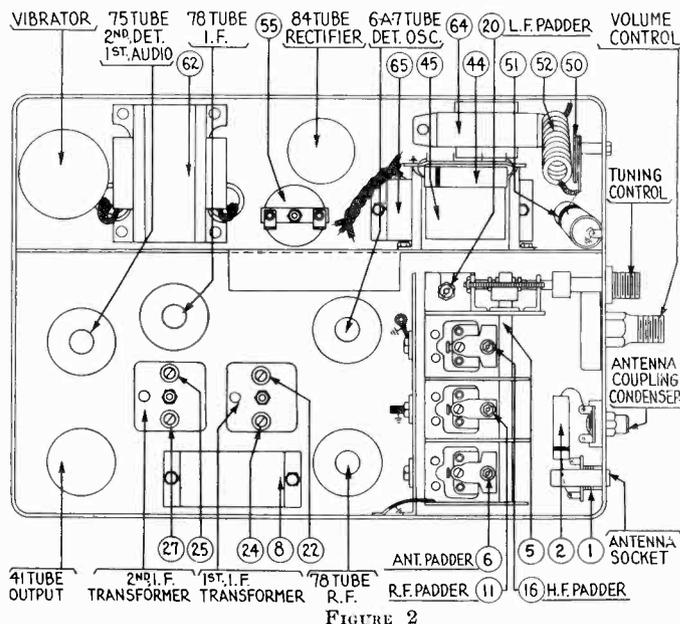

FIGURE 2
Both the primary and the secondary padders are placed side by side in the top of the transformer shield can. The adjusting screws are accessible thru the holes in the top of the shield. (See Figure 2).
Adjust the secondary screw padder (27) on the second I. F. transformer for maximum reading on the output meter. Then adjust the primary screw padder (25) for maximum reading. (See Figure 2 for location of padders).
Connect the generator lead to the grid cap of the 6A7 tube in series with a .1 mfd. condenser (without removing the grid cap). Adjust the secondary screw padder (24) on the first I. F. transformer for maximum reading on the output meter. Then adjust the primary screw padder (22) for maximum reading. (See Figure 2 for location of padders).